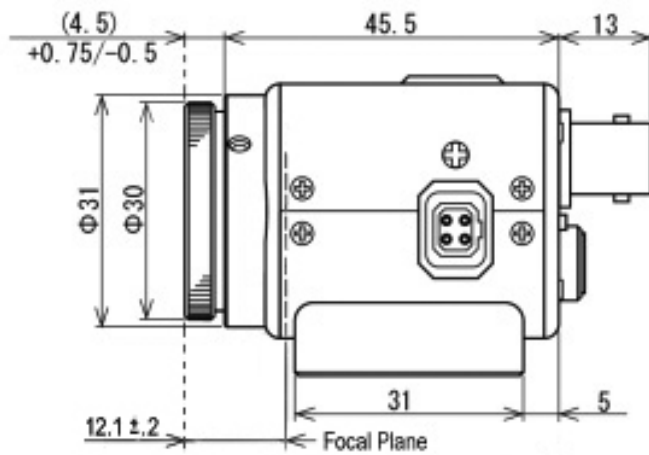

Figure 1 – Profile Dimensions
**CAUTION:** The focal plane array of the SP-1550M has no protective window. Do not allow any physical object to come in contact with the focal plane array, as damage will certainly occur. Be especially careful when measuring fibers and other high divergence devices that will be placed close to the detector. See Figure 1 for the dimension to the detector plane.